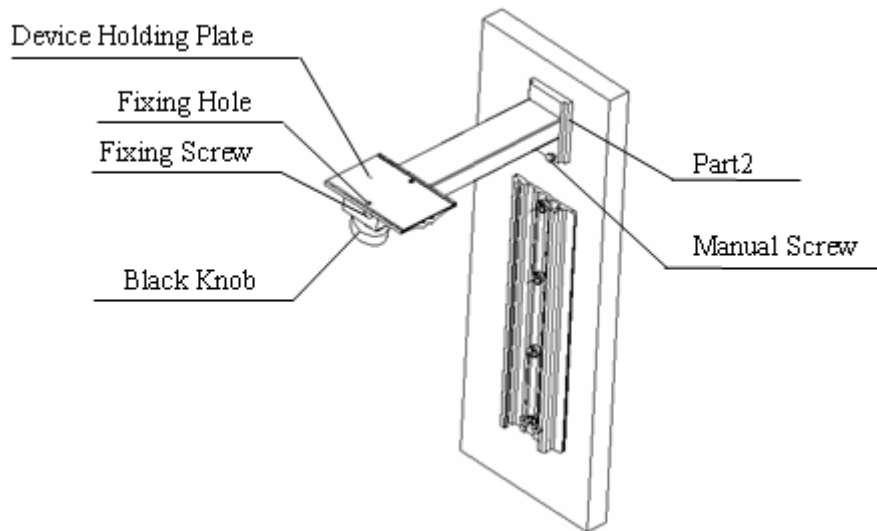

Figure 2-2
4. Slide the arm (part2) into channel (part1) as Figure2-2 shows to the desired location.